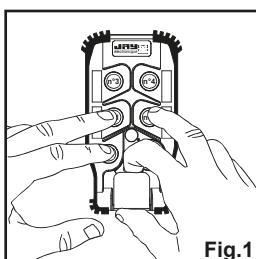

Fig.1
- 3- - Hold buttons n°1, n°2 and "On/Horn" pressed while unlocking the stop palmswitch button (fig.1).